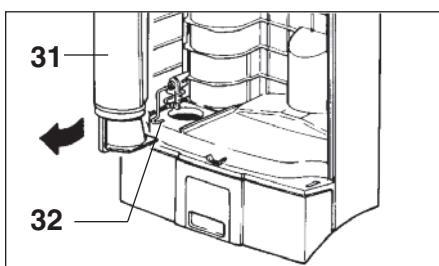

Figure 10
### Changing the Micro-Hygiene Filter - *Figure 10*
3. Microfilter not properly inserted.	3. Lift safety lever and insert filter with vertical plastic ridge on filter facing you (see pg. 8, figure 10).